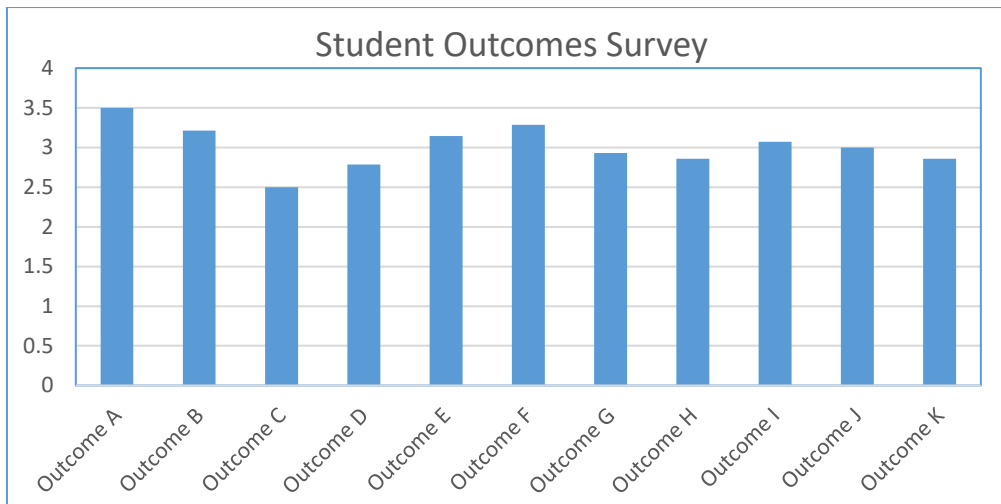
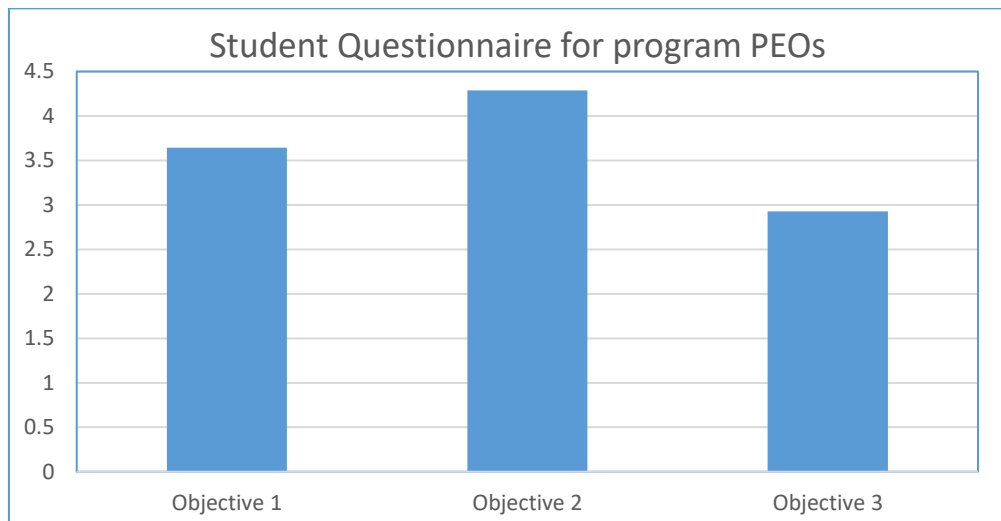

Figure 4.1: Student Outcomes Survey
Figure 4.2: Student questionnaire for our program PEOs.
- 1- Student Outcomes Survey is undertaken for a sample selected student of our educational program, Figure 4.1 shows a chart of A-K outcomes for the survey taken. Also, the survey includes a questionnaire about our PEOs, the output of this questionnaire is plotted in Figure 4.2.